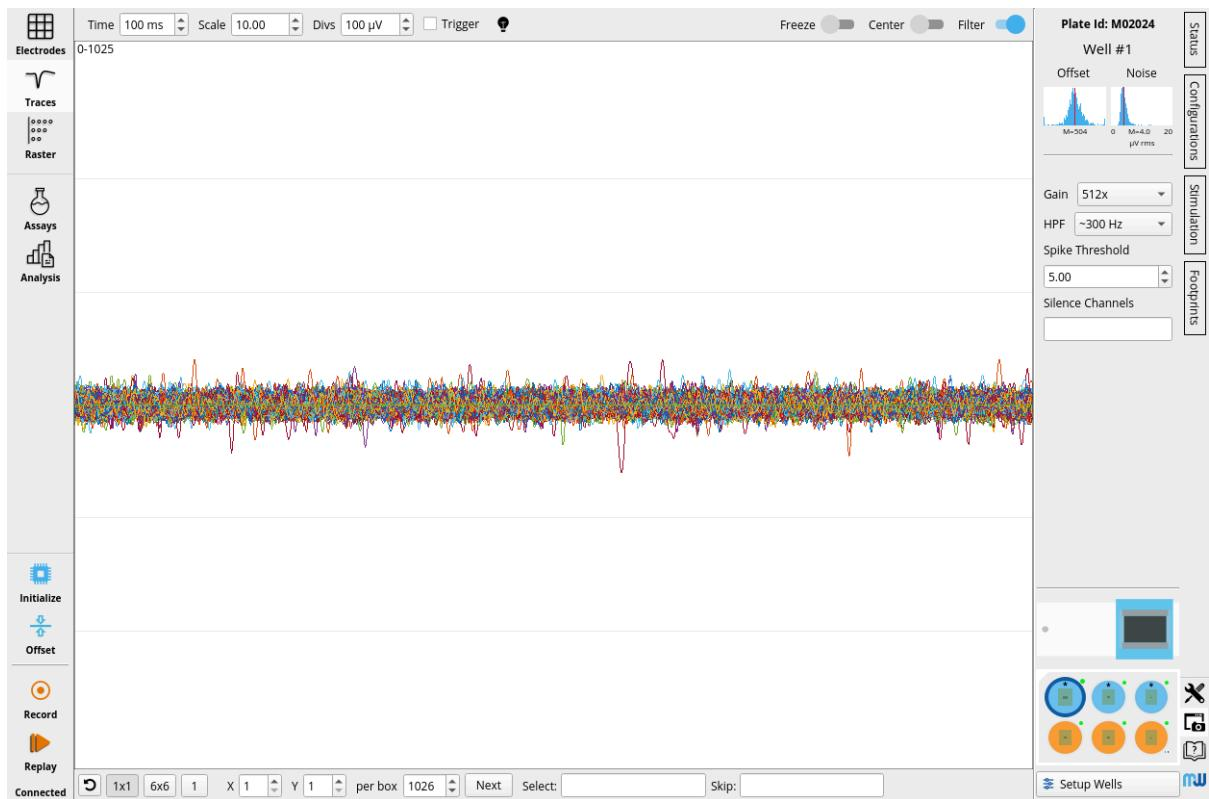
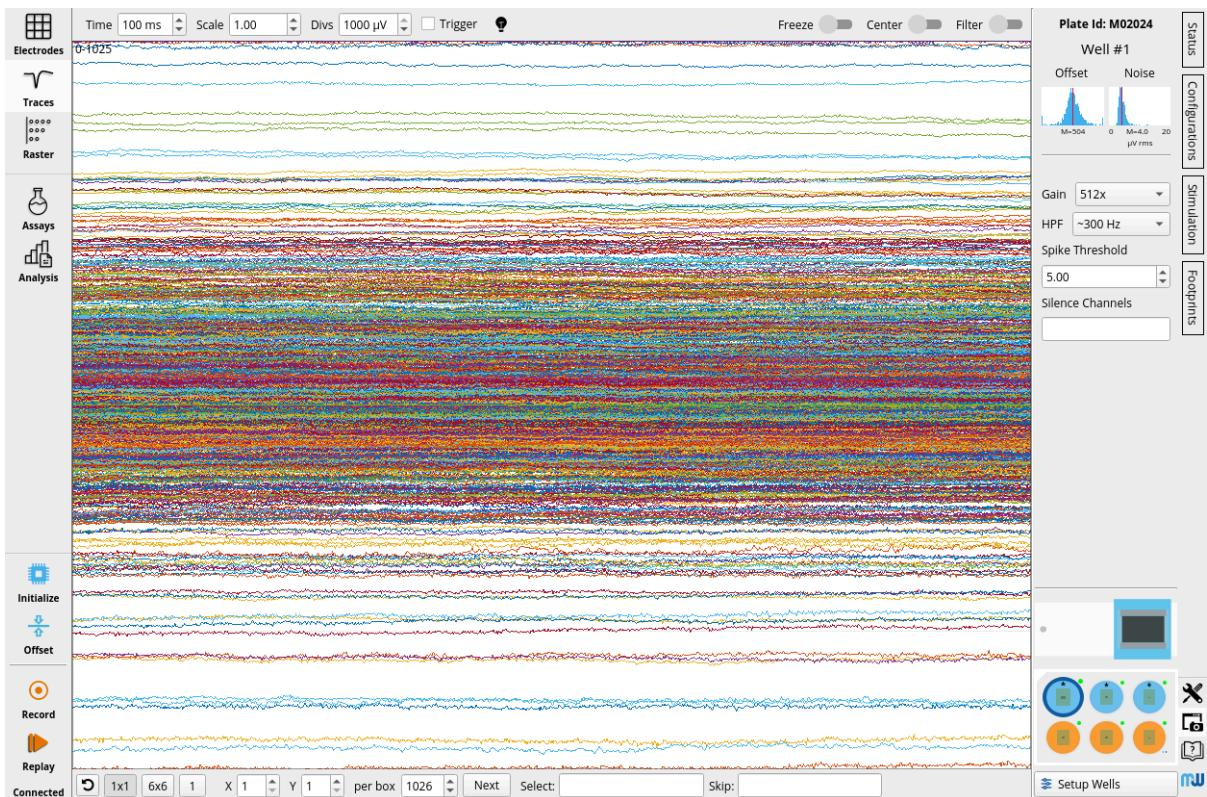

Figure 1.5. Filtered Signals from all Recording Channels in Traces View
Figure 1.6. Signal Traces without Filtering
5. The signals displayed in Figure 1.5 are band-pass-filtered by the software between 300 Hz and 3 kHz (see Chapter 5 for further information on how to modify the cutoff frequencies of the filter). Turn off the band-pass filter by clicking on the blue switch **Filter** in the top right corner. The traces will now appear vertically distributed over the signal display (Figure 1.6). If not visible yet, open the Status Tab by clicking on the **Status** button at the top right of the software window. On top of the Status Tab, two histograms display the distributions of the channel offset values and the root mean square (RMS) noise values.
6. Figure 1.6 displays the signals as they are measured by the system. The DC offset of the individual recording channels cause a vertical spread of the signals across the measuring range (Y-axis). These offsets are also visible in the relatively broad distribution of the values in the left histogram of the Status Tab. Note that incoming light also affects channel offset and that changes in the ambient light conditions typically cause signals to move up and down. In order to ensure constant conditions, keep the MaxTwo wellplate or the MaxOne well, respectively, covered. This ensures that the signal baselines remain stable.